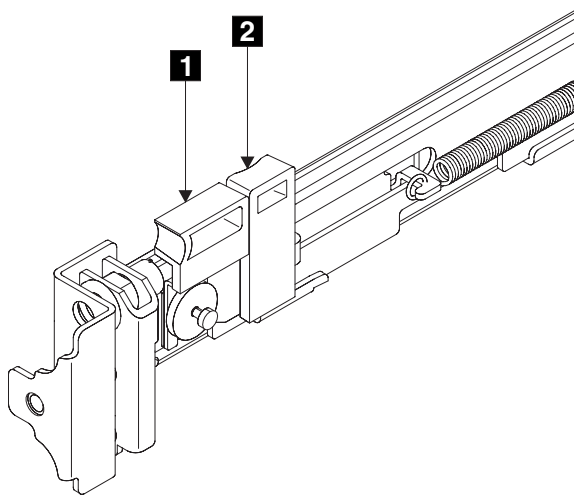

Figure 125. Retracting the latch lock carrier
2. Put your index finger against the side of the latch-lever, **1** in Figure 125, and put your thumb against the front of the latch-lock **2**.